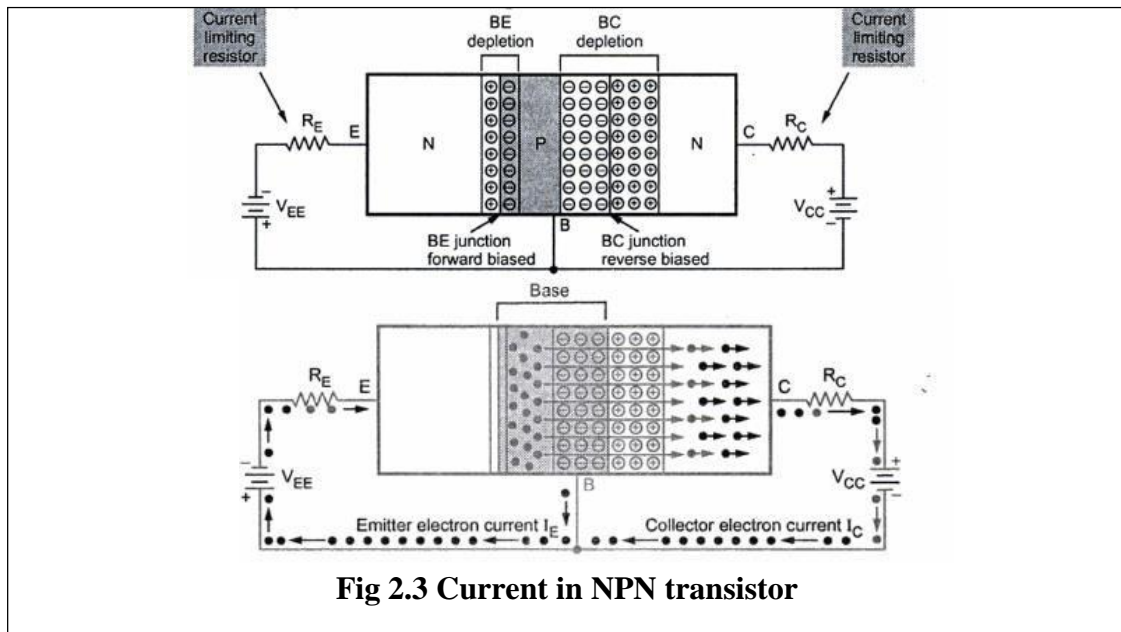

Fig 2.3 Current in NPN transistor
- As shown in fig 2.3 the NPN transistor is biased in the forward active mode. The emitter – base junction is forward biased only if  $V_{EB}$  is greater than barrier potential which is 0.7V for Si and 0.3 V for germanium.